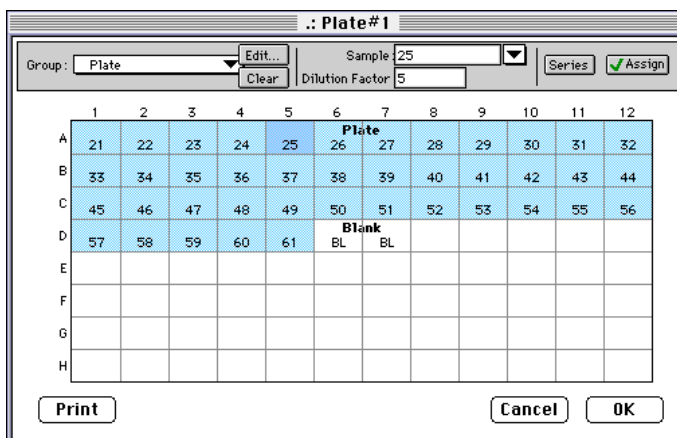

Figure 10: The Plate section Template Editor, showing the series set up
The starting sample was set at 21 (to correspond to its fraction number) and the series was set to proceed from left to right with one replicate. The Sample Descriptor box was checked to activate it, then 'dilution factor' typed into the field. The Units field was cleared and left blank. After clicking the OK button to create the series, the template displayed the sample names (fraction numbers) assigned to the wells (Figure 10). Samples with dilution factors other than 1 had the dilution factor added by clicking the well in the template to select it, then typing in the appropriate factor into the Dilution Factor field. In the figure, well A5 (fraction #25) is highlighted and its sample name (25) and its dilution factor (5) are displayed in their respective fields. The buffer blanks were assigned to wells D6 and D7.